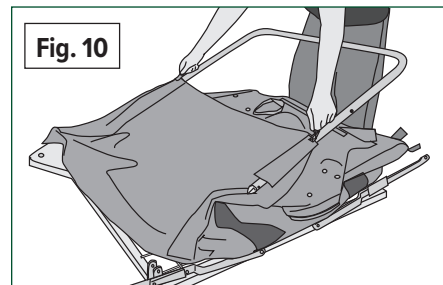

Fig. 10
4. **(Fig. 10)** Attach **Single Pin Hitch** to the existing hitch on the rear of your mower. Then place the **Hose Hanger** into the **Hex Column**.
3. **(Fig. 10)** Slide the side tube into the pockets on the Collector Bag. Slide the tube evenly for least resistance.